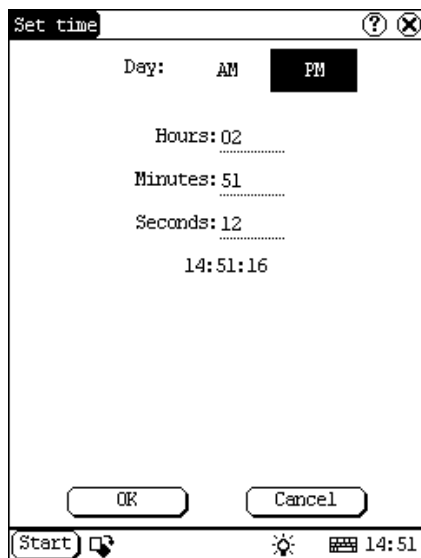

Figure 4-39
- 2) In the Date/Time interface, click [Set Time] button to open the Set Time interface as shown in Figure 4-39.